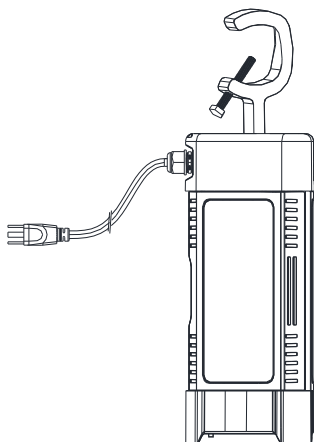

Figure 3
1. Screw the hook into lamp base. (Figure 3).